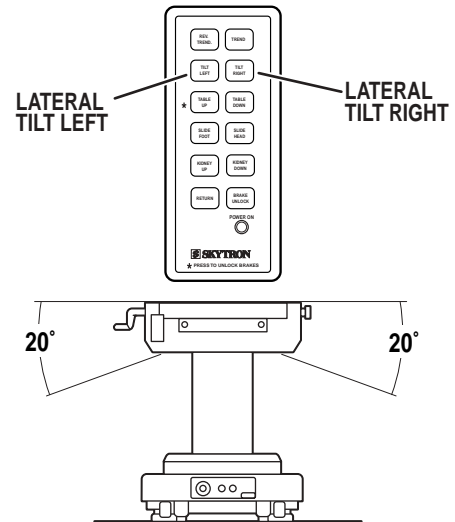

Figure 2-6. Lateral Tilt Positioning
d. Lateral Tilt. To achieve lateral tilt right (as viewed from the head end of the table), press the TILT RIGHT button (figure 2-6). Tilt of up to 20° may be obtained. To achieve lateral tilt left, press the TILT LEFT button. Tilt of up to 20° may be obtained.